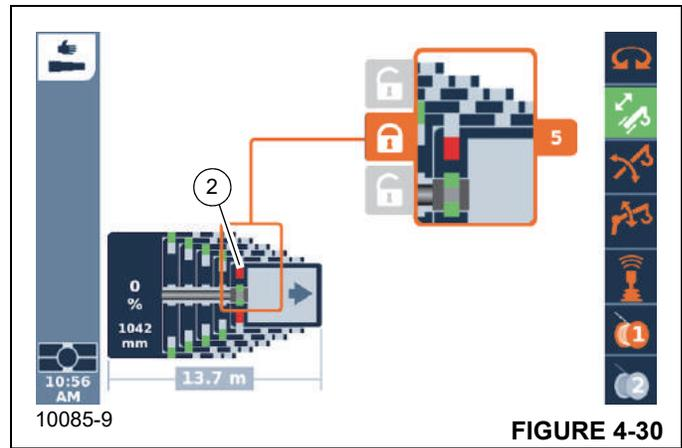

FIGURE 4-30
2. Confirm the selection – the locking pins will retract. Symbol (2, Figure 4-30) red.